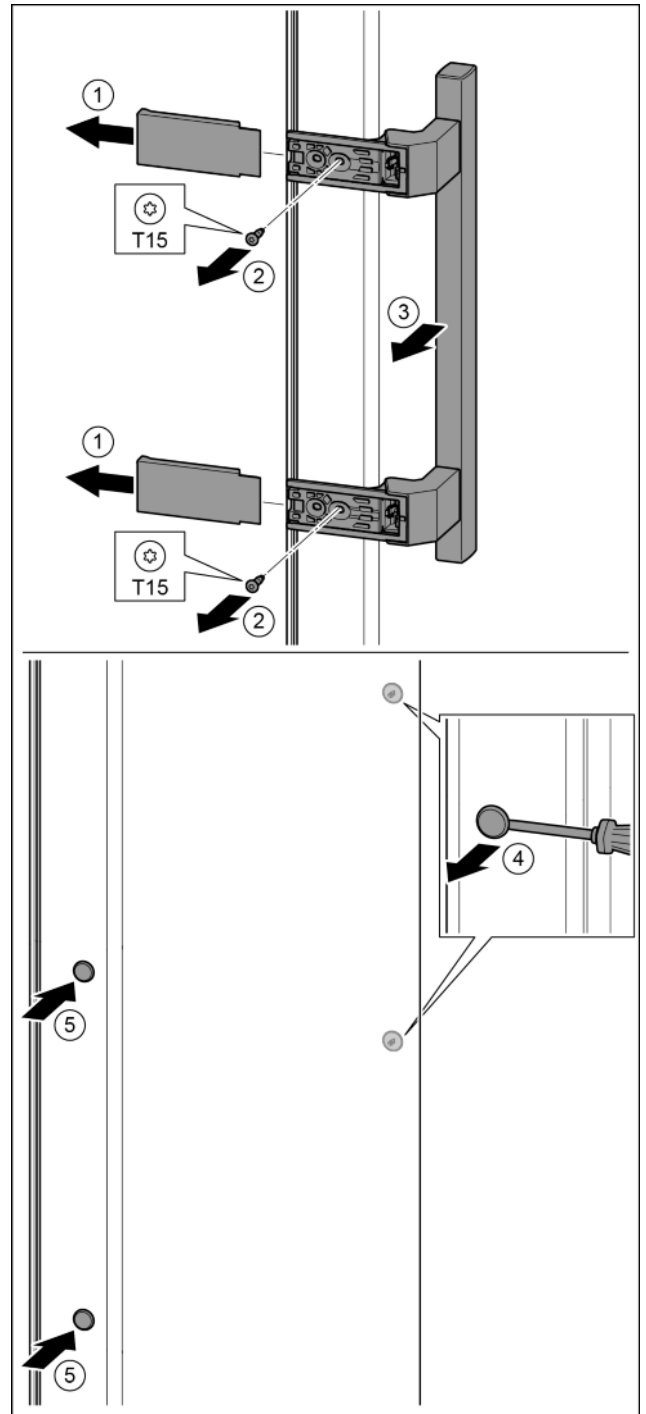

Fig. 14
- ▶ Pull off the cover. Fig. 14 (1)
- ▶ Remove the screws with the T15 screwdriver. Fig. 14 (2)
- ▶ Remove the handle. Fig. 14 (3)
- ▶ Carefully lift up the side plugs with a slotted screwdriver and pull them out. Fig. 14 (4)
- ▶ Insert the plugs again on the other side. Fig. 14 (5)